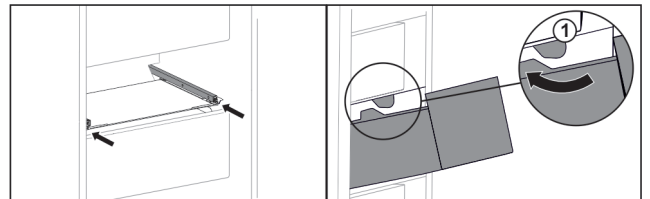

Fig. 136
- ▶ Guide drawer around the stoppers Fig. 136 (1).